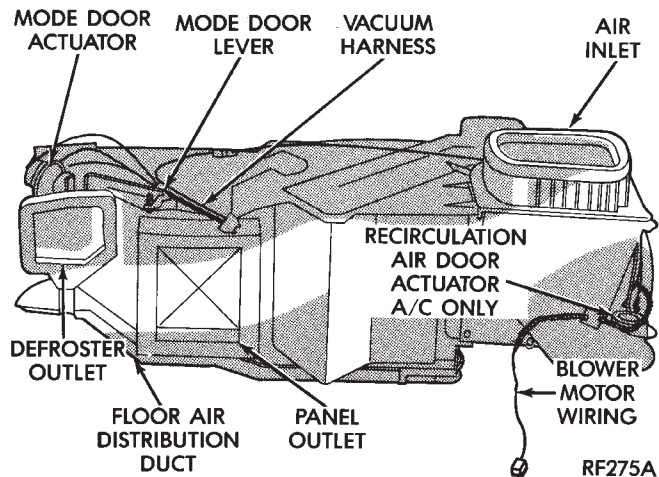
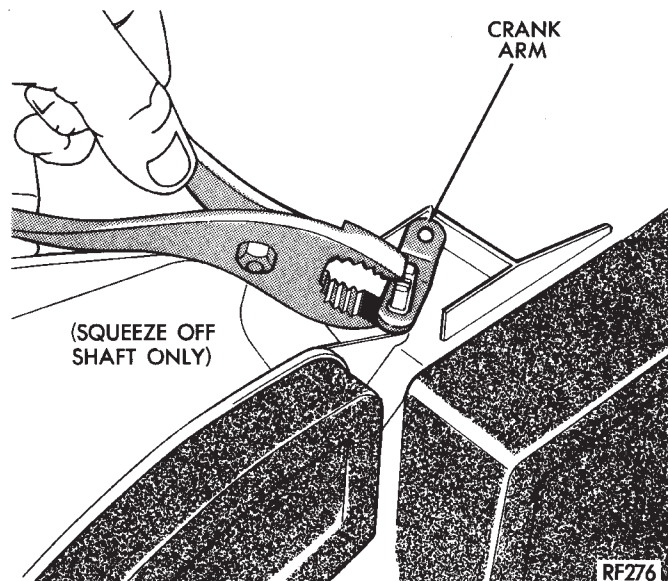
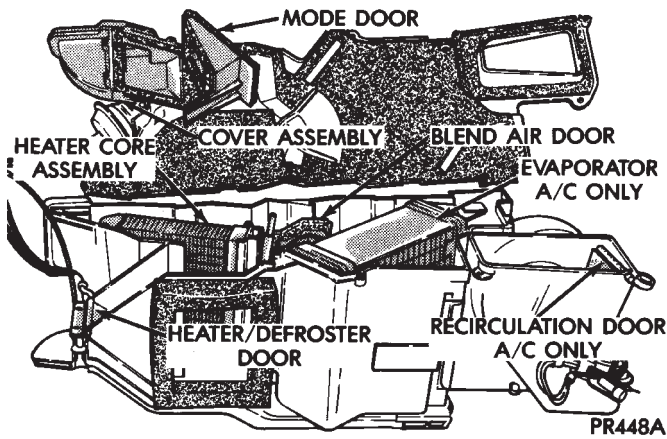

Fig. 7 Position Heater-A/C Unit for Disassembly and Reassembly
Fig. 8 Blend-Air Door Crank Linkage Removal
Fig. 9 Heater-A/C Unit Cover Removal and Installation
(1) Place the heater-A/C unit on a suitable work surface. (Fig. 7).
(2) Locate and remove one retaining nut from the blend-air door pivot shaft.
(3) To remove the top cover from the A/C-heater case, the crank arm must be removed (Fig. 8).
(4) Disconnect the vacuum lines from the defroster and panel mode vacuum actuators and position them out of the way.
(5) Remove three heater-A/C unit cover attaching screws going upward at the defroster outlet chamber.
(6) Remove two heater-A/C unit cover attaching screws going upward at the air inlet plenum.
(7) Remove eleven heater-A/C unit cover attaching screws going downward into the housing. Then lift the cover from the heater-A/C unit. (Fig. 9).